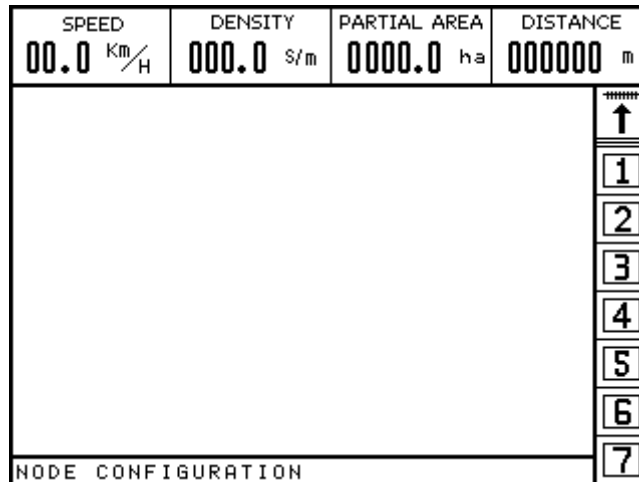

Figure 28. Starting Node Box Setting Procedure
- 2. Enter the NODE CONFIGURATION function** as follows: Turn on monitor by pressing  and immediately press  until two beeps are heard. By this time, in the message area a message reading “NODE CONFIGURATION” will appear which indicates that the process has started (*Figure 28*).